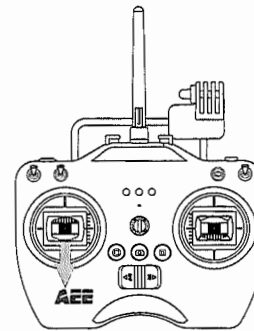

Figure 19
**Method two (Figure 19):** After the quadcopter lands, toggle the left joystick to the lowest position and hold for 3 seconds to stop the motor.